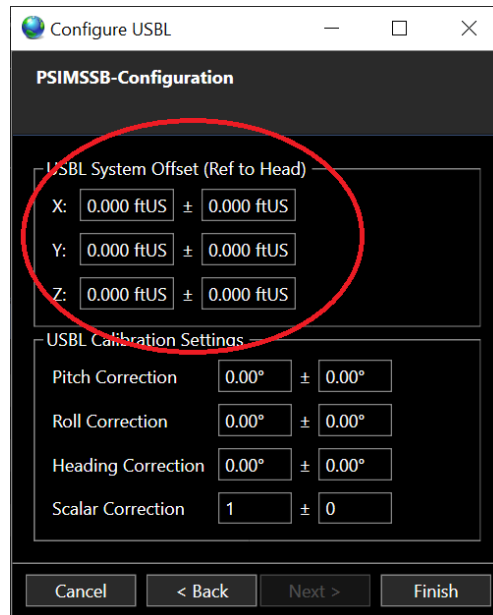

FIGURE 6-19 USBL SYSTEM OFFSETS
- a. Enter the offsets that are entered in the USBL system using the sign convention of USBL reference point to the transducer (see Figure 6-19 **Error! Reference source not found.**)
- a. Enter 0.0 for the USBL System Offsets (see Figure 6-19)